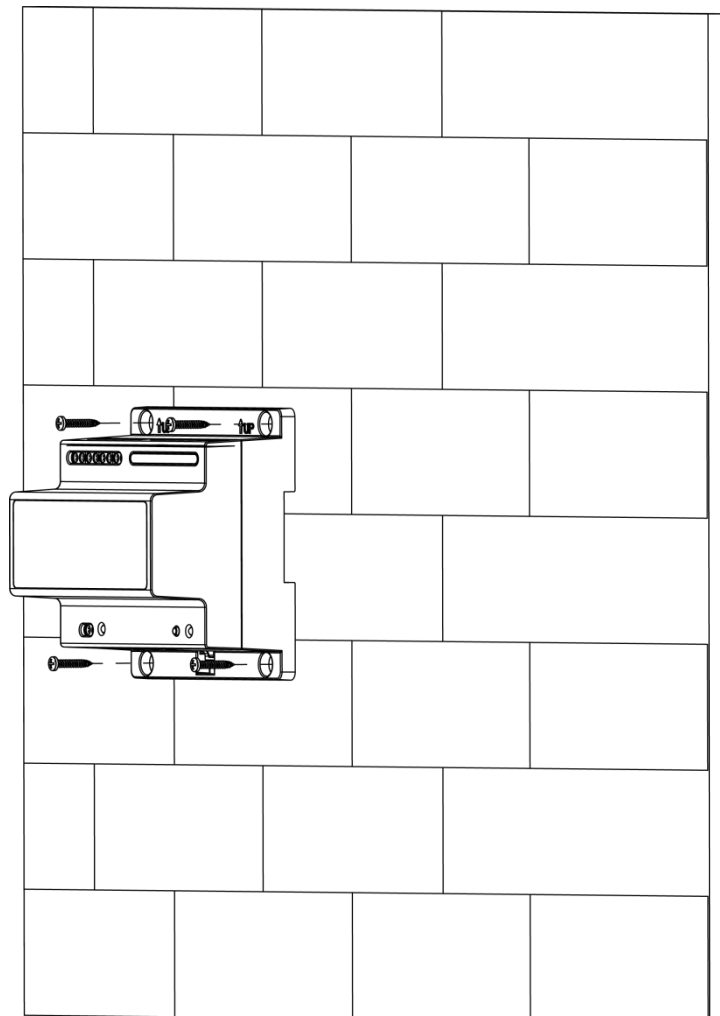

Figure 2- 3
- Step 3. Lock the device on the wall with screws, see Figure 2- 3.